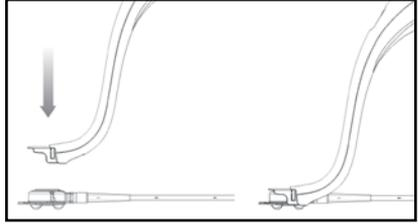

Figure 6. Loading the Access Port into the Port Applier deployment head
- Insert the Access Port into the RapidPort® Port Applier deployment head. Ensure the attached black safety cover is facing opposite the Port Applier. The port will snap into place (Figure 6).